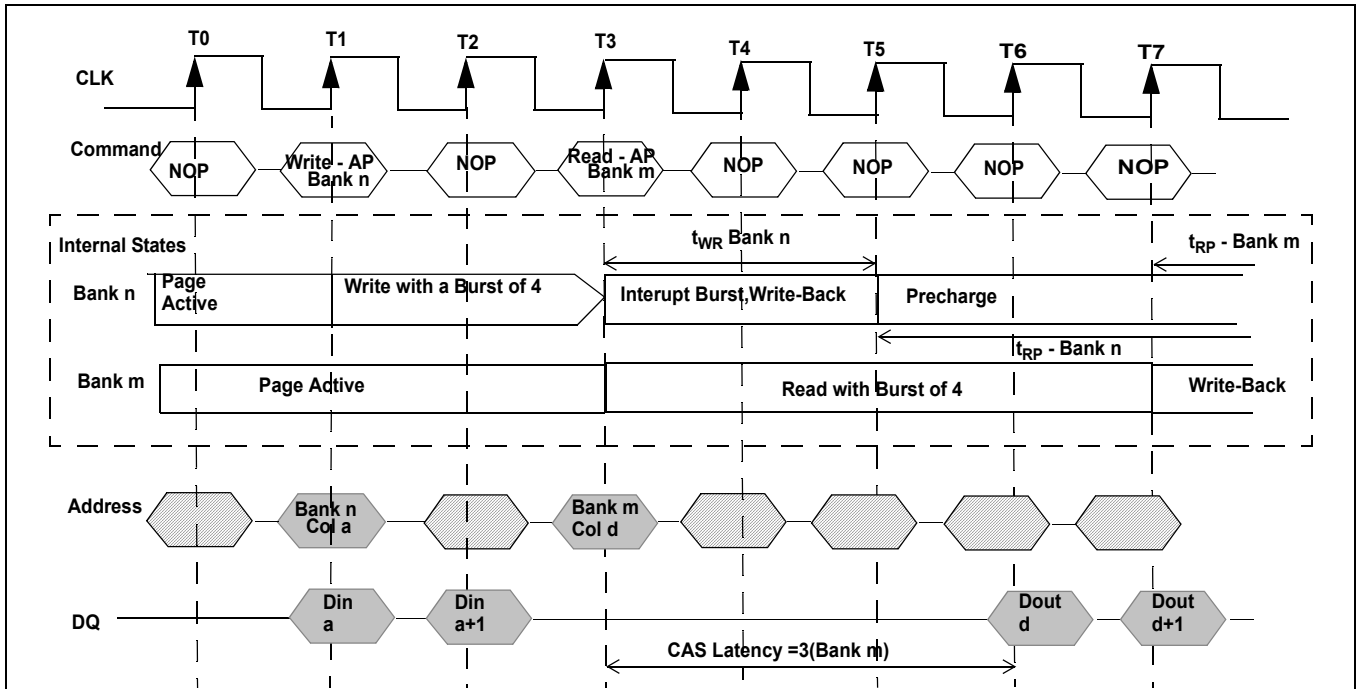

Figure 36. Write with Auto Precharge Interrupted by a Read(CAS Latency =3)
3. Interrupted by a Read (with or without auto precharge): A Read to bank m will interrupt a Write on bank n when registered, with the data-out appearing CAS latency later. The Precharge to bank n will begin after t_{WR} is met, where t_{WR} begins when the Read to bank m is registered. The last valid Write to bank n will be data-in registered one clock prior to the Read to bank m. (Figure 36.)